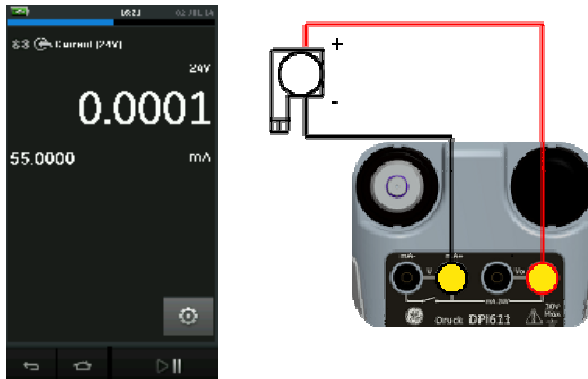

Figure 2-18 Measure current on CH1. Range ± 55 mA
- *Figure 2-18* shows CH1 set-up to measure or source a current with internal loop power.